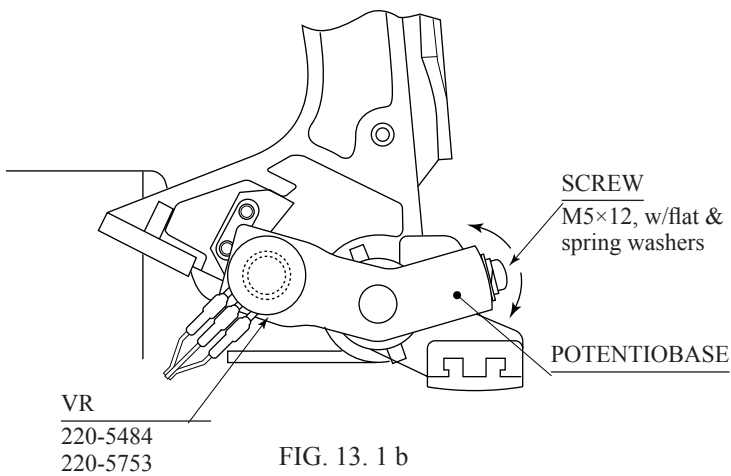

FIG. 13. 1 b
- Loosen the screw which secure the Potentiobase, and adjust the Volume value by moving the Base. (FIG. 13. 1 b)